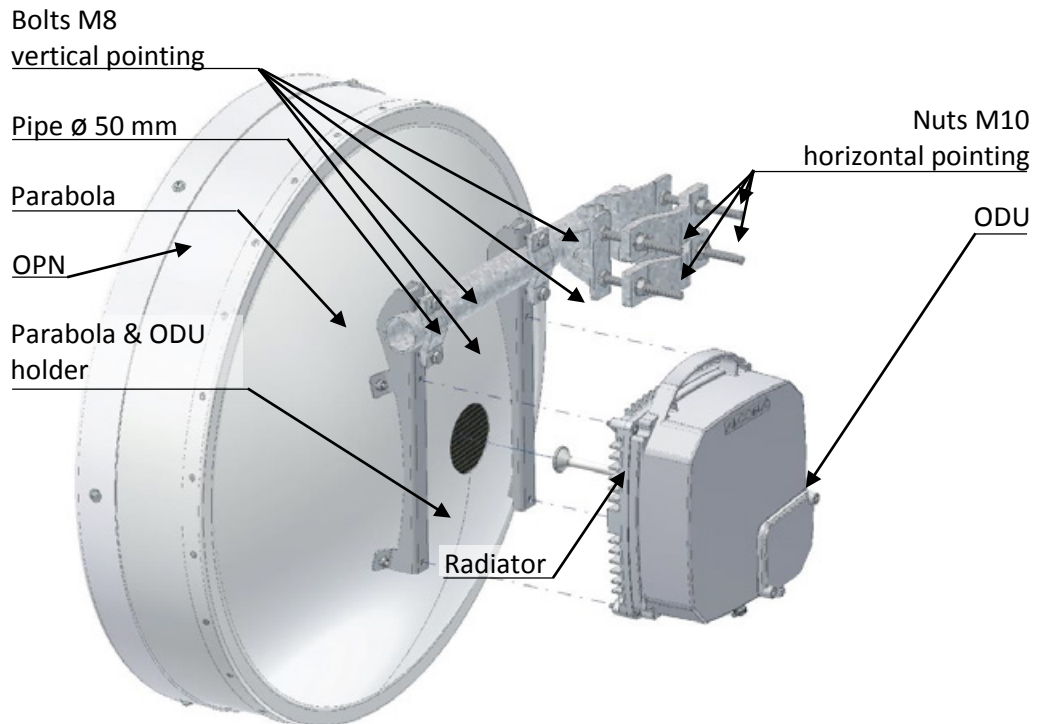

Figure 17 The AL2-xx/ME antenna installation (also for the AL1-xx/ME antenna)
- **Gradually tighten the bolts** that hold the parabola and ODU to the profile (figure 17)